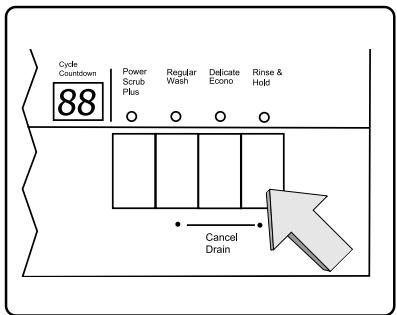

Figure 32/Illus. 32
- 1) Press and hold the right-most of the two buttons labelled "Cancel Drain", as shown in Figure 32, then press and hold the "On/Off" button. The LED display will show a number between 0 and 6.